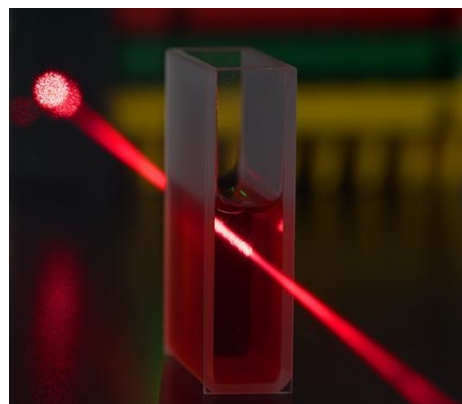

Figure 3. Path of light through a cuvette. Image source: [Cuvette photo/shutterstock.com](https://www.shutterstock.com)
6.3.1 Consider the direction of light through the spectrometer (left-to-right). Place your cuvette such that the light path enters and exits through the clear sides of the cuvette (pathlength 10 mm). See Figure 3.